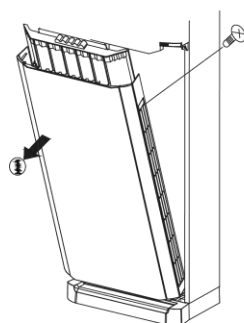
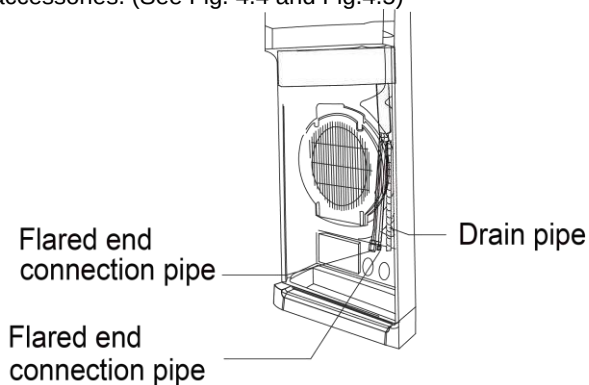

Fig. 4.2
Fig. 4.3
- (1). Dismantle the screw-shielding cover from both sides of the panel.
- (2). Remove the screws distributed on the panel by a screwdriver. (See Fig.4.2)
- (3). Pull out the panel as per the arrowed direction. (See Fig.4.2) The internal parts of the unit are shown in Fig.4.3.